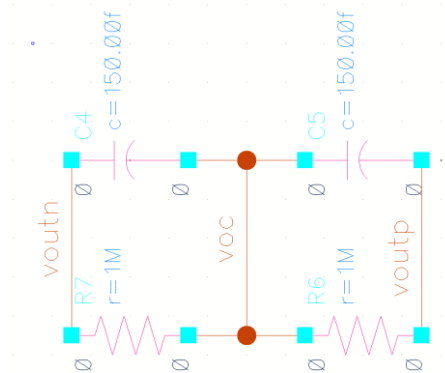
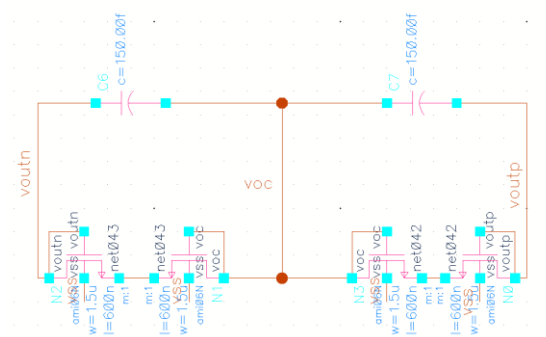

Fig 7
Fig 8
1. From previous work, we could conclude that the resistive common-mode detector will reduce the DC gain, and the active common-mode detector will have range reduction. To eliminate these two drawbacks, we could use the leaky capacitance common-mode detector as shown in Fig.7. However, the resistance also needs to be large enough to reduce loading effect. Instead of using resistors, we could use the off-state transistors to replace the resistors, as shown in Fig.8. Explain how it works and why it could replace resistors.